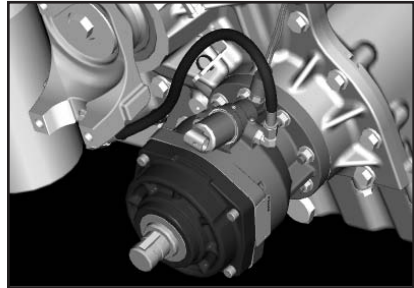

Fig. 20
9. Route hose and secure to stay out of the path (swing diameter) of the transmission output yoke (**Fig. 20**).